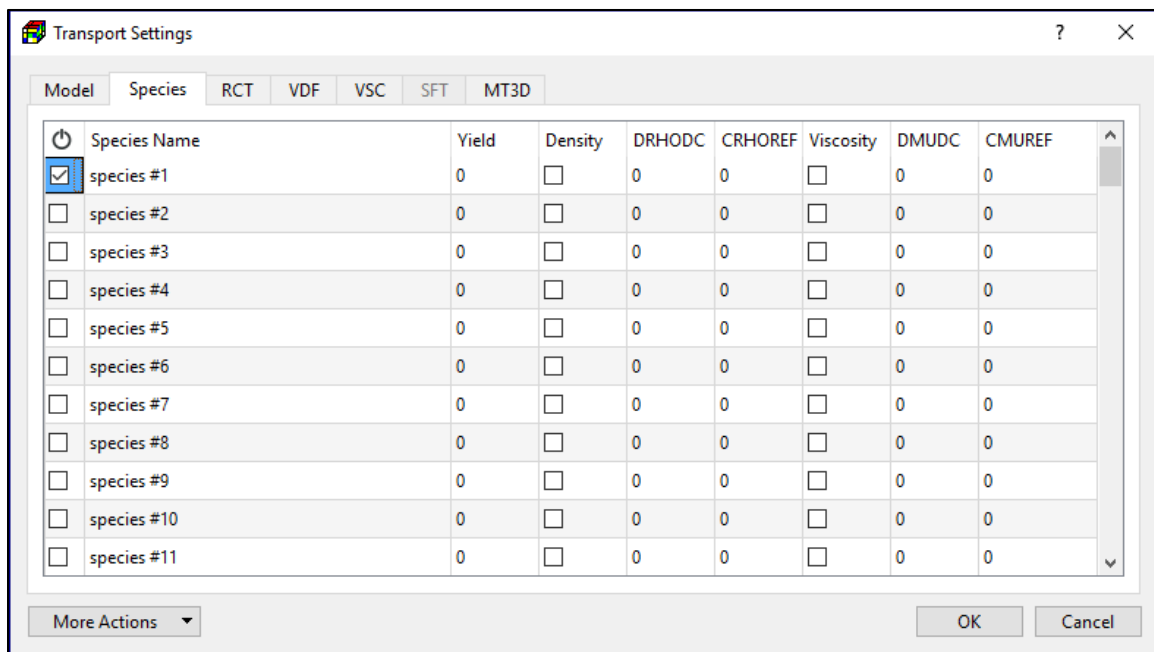

Figure 117. The Species Tab of the Transport Settings dialog box
3. **Species Tab** (Figure 117) defines the species to be used in the simulation. The table contains the species and related parameters.
- **DRHODC** is the slope that relates fluid density (ρ) to solute concentration (C), i.e., $\partial\rho/\partial C$. This is used only if the Variable Density Flow (VDF) process of SEAWAT is turned on.
where λ^k specifies the first-order reaction coefficient for species k and $Y_{k-1/k}$ sets the yield coefficient between species k-1 and k. Yield coefficients are based on stoichiometric relations between the species for which relations are specified. The yield coefficients are specified in the Species tab (Figure 117), the reaction coefficients are specified in *Models > MT3D/SEAWAT > Packages > Reaction (RCT) > First-Order Reaction Rate (Dissolved Phase)* and *Models > MT3D/SEAWAT > Packages > Reaction (RCT) > First-Order Reaction Rate (Sorbed Phase)*.